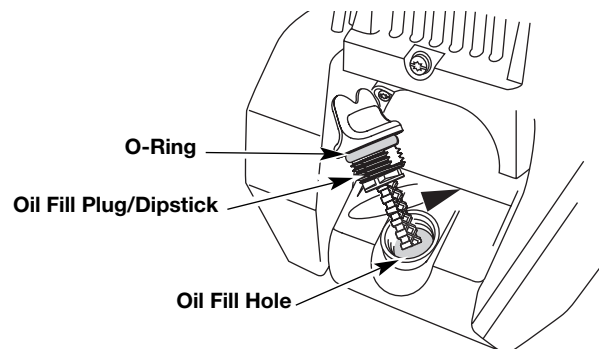

Fig. 20
- If the level is low, add a small amount of oil to the oil fill hole and recheck (Fig. 20). Repeat this procedure until the oil level reaches the top of the dipstick.
NOTE: Make sure the O-ring is in place on the oil fill plug/dipstick when checking and changing the oil (Fig. 20).